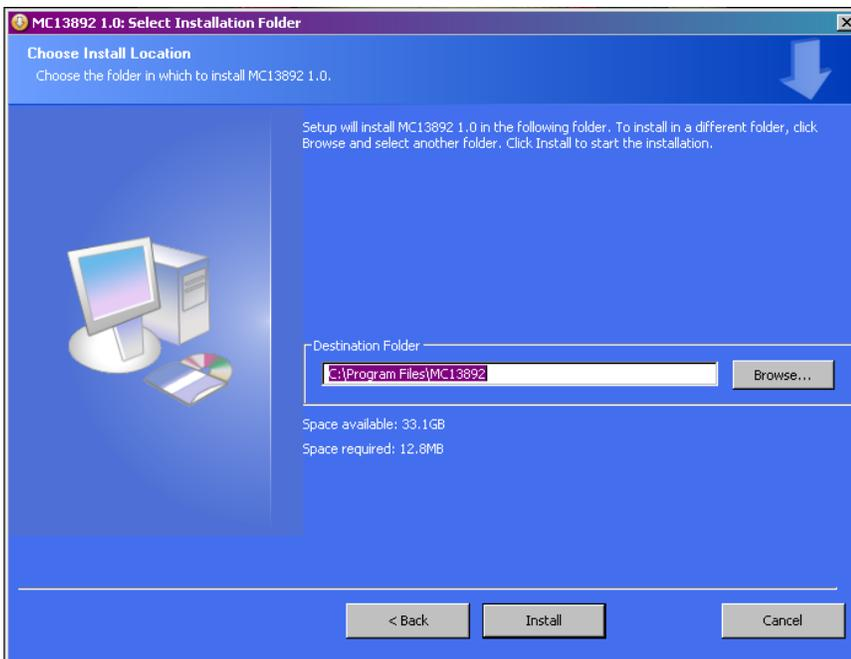

**Figure 13. License Agreement**
1. Double-Click to the executable file. The installer shall run immediately and will look like as depicted in Figure 13.